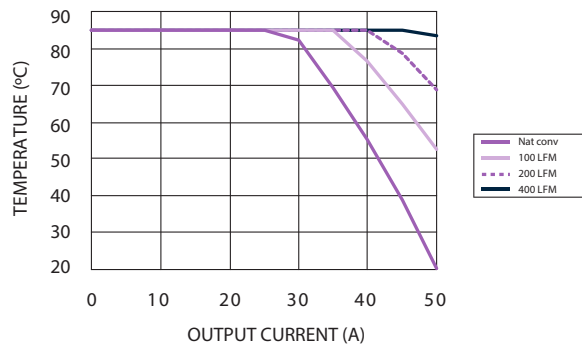

Figure 1 - Safe Operating Area
5. See Figures 1 and 2 for safe operating curves.